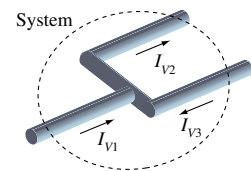

Figure 1.7: A system of pipes having a junction. Two of the flows are known.
34. The magnitudes of the volume currents I_{V1} and I_{V2} in Fig. 1.7 are 10 l/s and 15 l/s, respectively.
61. The pipes in Fig. 1.7 in Exercise 17 have hydraulic resistances of $50.0 \cdot 10^6 \text{ Pa}\cdot\text{s}/\text{m}^3$, $20.0 \cdot 10^6 \text{ Pa}\cdot\text{s}/\text{m}^3$, and $30.0 \cdot 10^6 \text{ Pa}\cdot\text{s}/\text{m}^3$ when a certain oil flows through them. The pressures at both inlets (for pipe 1 and pipe 3) are equal.